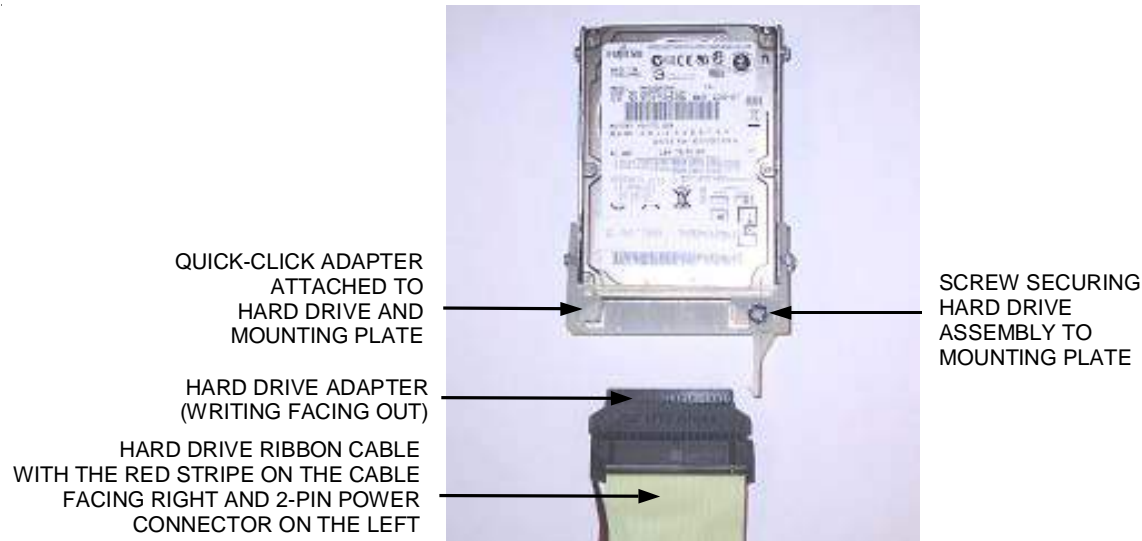

FIGURE 2 - QUICK-CCLICK HARD DRIVE ASSEMBLY CONNECTION
4. Disconnect the hard drive adapter, with the attached ribbon cable, from the hard drive. See Figure 2. Remove the screw (through the quick-click adapter) securing the hard drive to the mounting plate. Remove the hard drive and the attached bracket from the mounting plate by sliding the assembly up and off the plate.
1. Attach the hard drive ribbon cable in the game to the new hard drive by lining up the left side of the hard drive adapter with the pins on the hard drive, and then carefully inserting it all the way into the quick-click adapter (see Figure 2 for proper orientation). Make sure that the writing on the adapter is facing out, and that the white stripe on the cable is on the left.
2. Slide the new hard drive assembly onto its mounting plate and secure in place with 1 screw (see Figure 2).